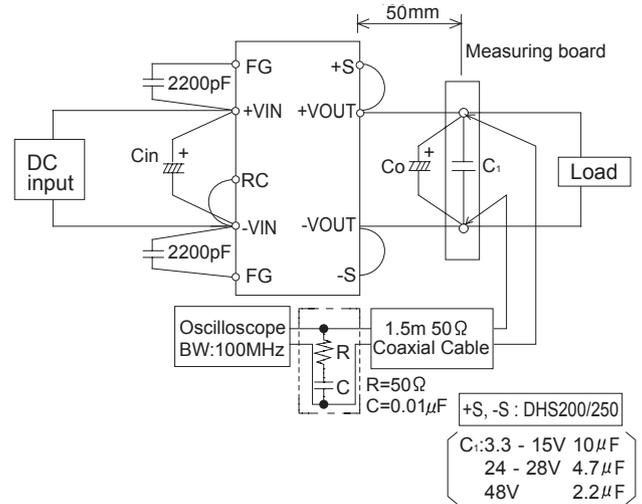

Fig.2.5 Method of Measuring Output Ripple and Ripple Noise
■ The specified ripple and ripple noise are measured by the method introduced in Fig. 2.5.